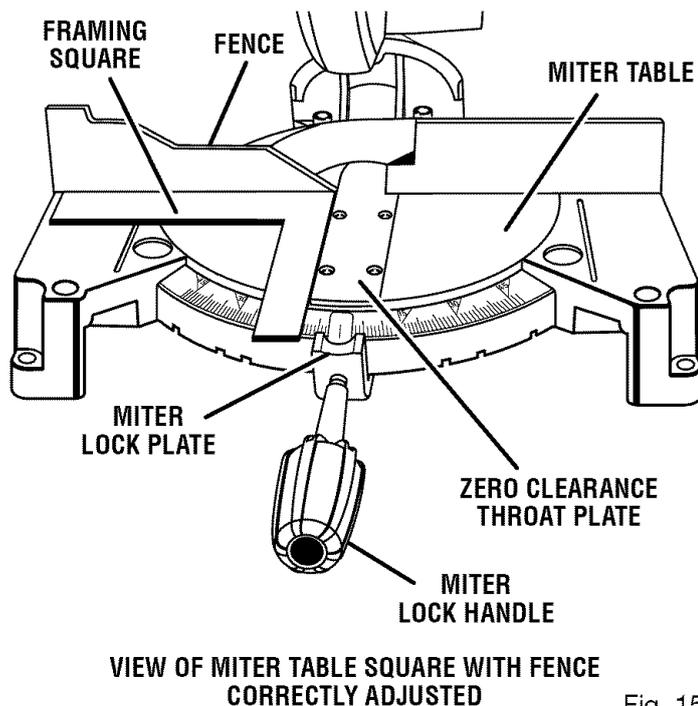

Fig. 15
See Figures 15 - 18.
- Lay a framing square flat on the miter table. Place one leg of the square against the fence. Place the other leg of the square beside the zero clearance throat plate in the miter table. The edge of the square and the zero clearance throat plate in the miter table should be parallel as shown in figure 15.